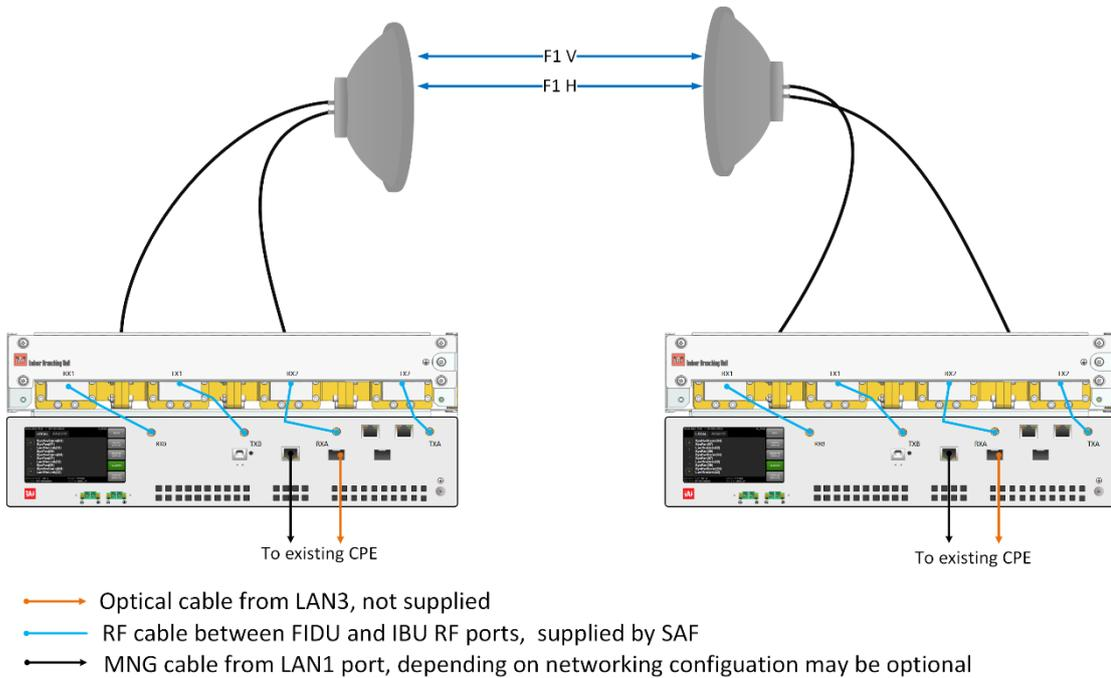

Figure 2-6 Integra- FIDU/FIDU+ 2+0 XPIC with IBU
- 2) Integra-FIDU/FIDU+ without built-in diplexer – the radio has two Tx and two Rx ports for connecting to the external branching unit or SAF Indoor Branching unit (IBU) for 2+0 XPIC operation. The branching unit can be attached to the antenna using waveguides, see the *Figure 2-6*.